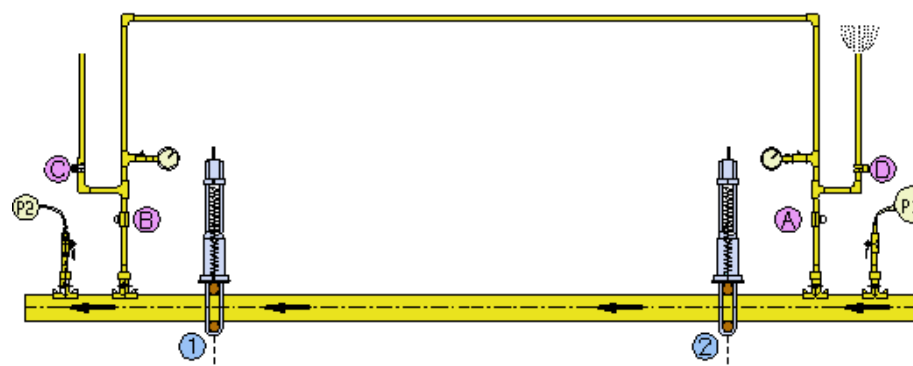

Figure 36- Commission Bypass (2)
4. Open valve D then B and purge until two independent readings of 90% gas in air has been obtained. See Figure 36.